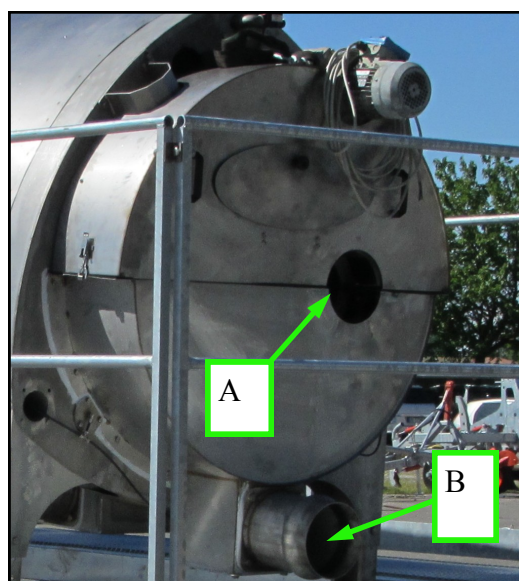

fig. 8
- 4) The *feed pipe* (diameter 150) must be connected to inlet **A** **fig. 8** at the front.
- 5) The *overflow pipe* (diameter 150), under the inlet, is connected to connections **B** **fig. 8**